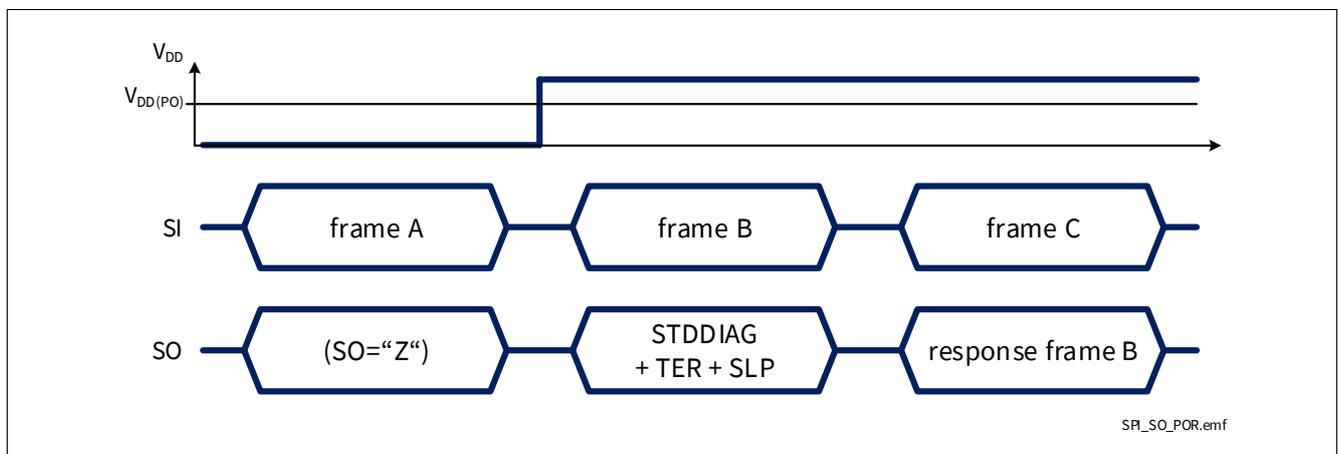

Figure 44 SPI response after coming out of Power-On reset at V_{DD}
- When BTS71040-4ESA digital supply comes out of Power-On reset condition, as shown in **Figure 44**